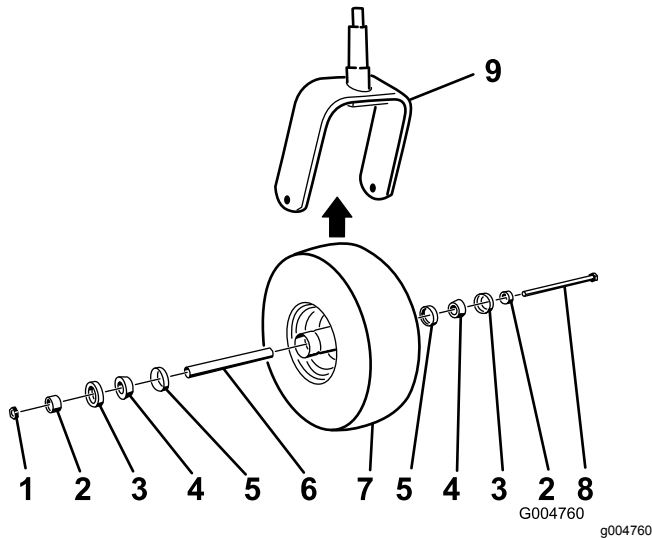

Figure 42
2. Remove the locknut from the bolt (Figure 42).
5. Assemble the caster wheel by pushing the cone bearings and seals, packed with grease, into the wheel hub, positioned as shown in Figure 42.